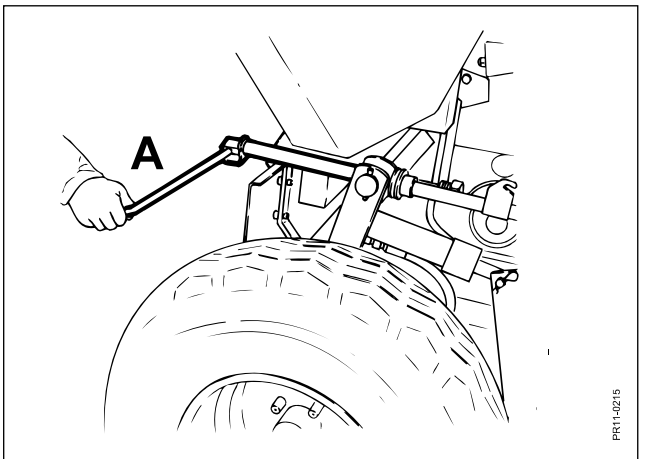

Fig. 3.15
- Fig. 3.15** Tighten the relief springs by the spindle **A**, so that the maize unit presses with